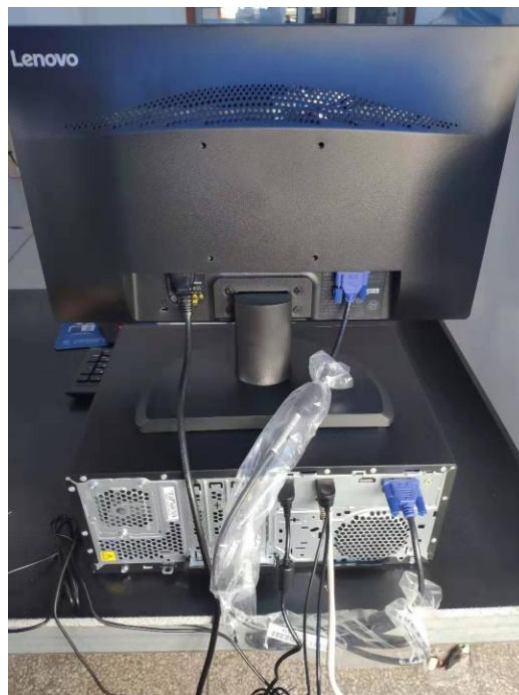

Figure 3-17 Computer and host connection
Step 1 First connect the power cable to the computer correctly, as shown in Figure 3-17: